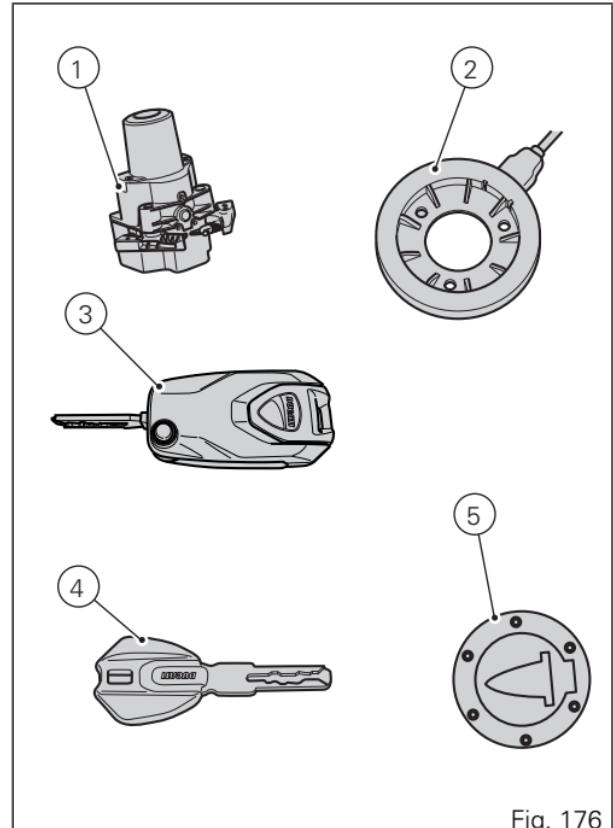
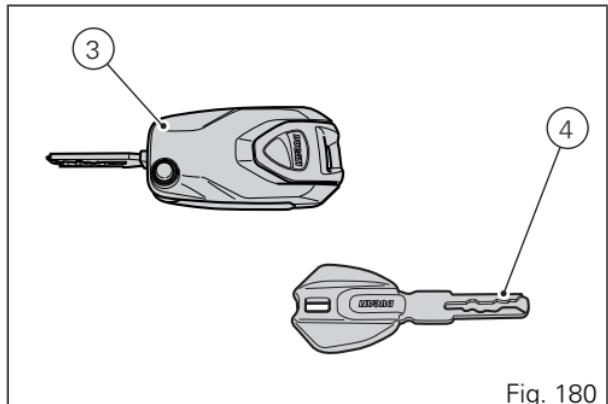

Fig. 176
Fig. 180
The "Hands free" unit (1, Fig. 176) is located on tank front side and can be accessed by pulling up and removing lid (8).
Key-On can be performed by pressing button (6) on the handlebar and with the presence of the active key (3, Fig. 180).
Key-Off can be performed by pressing the button (6) on the handlebar. It can also be performed without the key (3, Fig. 180) only if motorcycle speed is equal to zero.
Key-On can be performed by pressing button (7) on the Hands free unit (1, Fig. 176) and with the presence of the active key (3, Fig. 180).
Key-Off can be performed by pressing button (7) on the Hands free lock (1, Fig. 176), also without the key (3, Fig. 180).
Key-On can be performed by pressing the grey button (6) on the handlebar and with the presence of the passive key (4, Fig. 180).
Key-Off can be performed by pressing the grey button (6) on the handlebar. It can also be performed without the key (4, Fig. 180) only if motorcycle speed is equal to zero.
Key-On can be performed by pressing button (7) on the Hands free lock and with the presence of the passive key (4, Fig. 180).
Key-Off can be performed by pressing button (7) on the Hands free lock (1, Fig. 176), also without the key (4, Fig. 180).
Key-On can be performed by pressing button (7) on the hands free lock (1, Fig. 176) without the presence of the keys (3, Fig. 180) and (4, Fig. 180) and entering the pin code on the instrument panel.